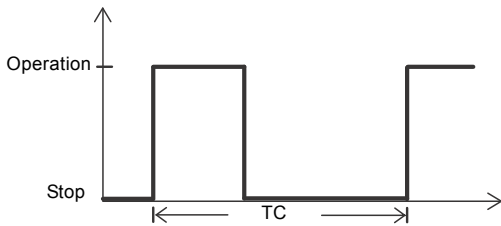

Fig. 10 S3 operation
S3 operation is a series of identical duty cycles (TC) each with a constant load for a period, followed by a rest period. Thermal equilibrium is not reached during the cycle. See fig. 10.